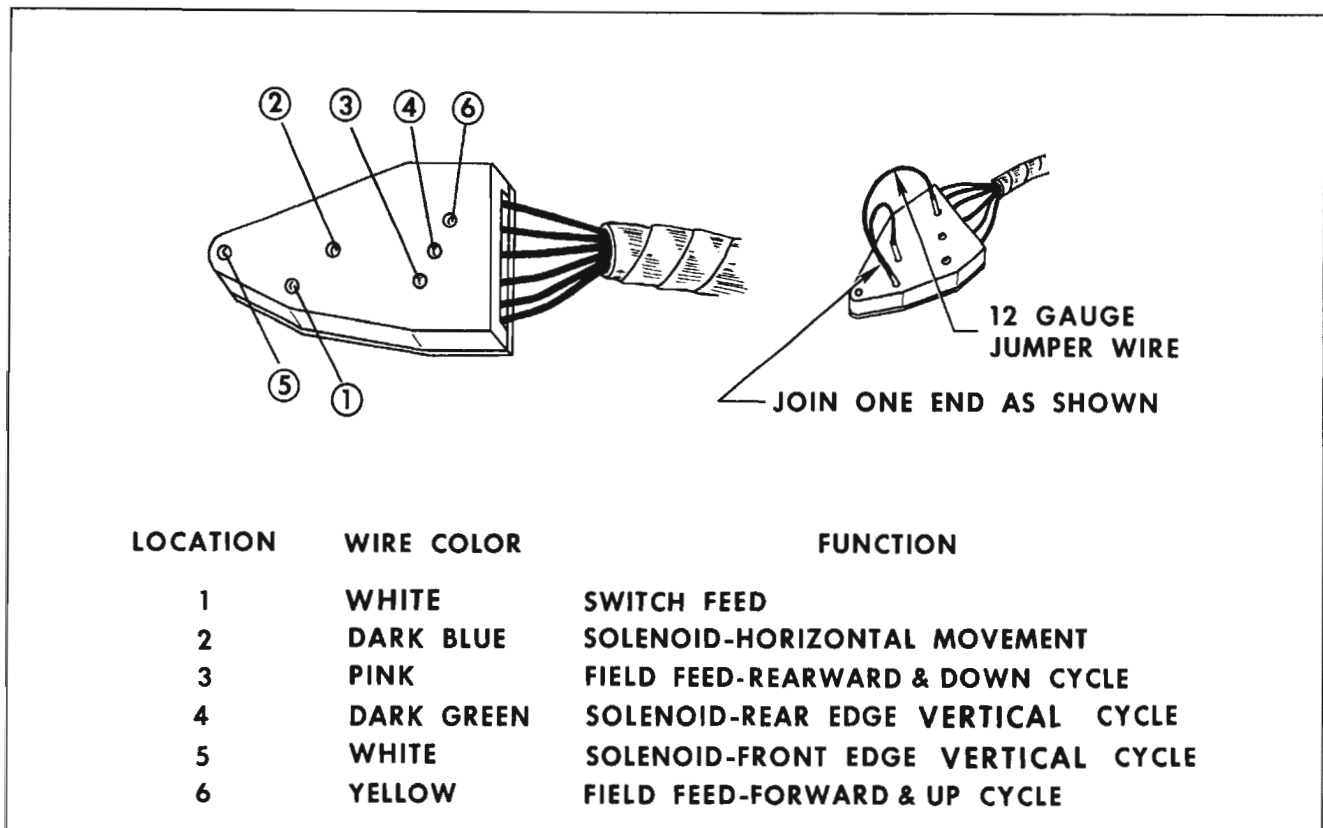

Fig. 16-165 Six-Way Seat Switch Block (In Seat Panel)
1. Connect one light tester lead to feed terminal of switch block and ground other test lead to body metal. (Fig. 16-165)
NOTE: In the following operations which specify the seat control switch to be actuated, a switch that has been checked for proper operation may be connected to the switch block. If a switch is not available, a three-way jumper wire can be made to perform the switch function. The jumper wire and the switch locations to be connected to obtain a specific movement of the seat are shown in Figure 16-165. If a jumper wire is used, number the locations on the switch block as indicated in the illustration. Details outlining the making and use of the jumper wire, follow checking procedures.
wire as shown in Figure 16-165. The joined end can be inserted in the feed location in the switch block; one of the remaining ends can be inserted into one of the field locations in the switch block; the other end can be inserted into one of the solenoid locations.